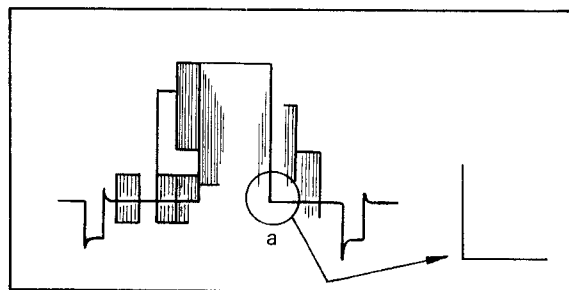

Fig. 6-24 Aperture adjustment
3. Adjust R45 (APERTURE) so that the amplitude of (a) becomes as shown in Fig. 6-24.